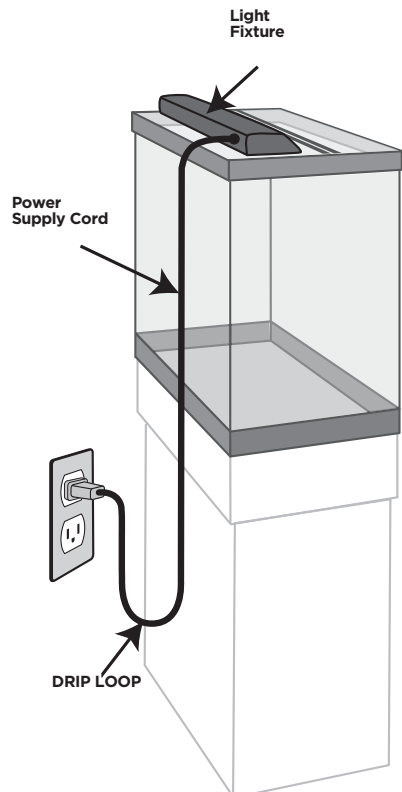

fig. A1 - Drip Loop
5. To avoid the possibility of the appliance plug or receptacle getting wet, position aquarium stand and tank to one side of a wall-mounted receptacle to prevent water from dripping onto the receptacle or plug. A "drip loop" (fig. A1) should be arranged by the user for each cord connecting an aquarium appliance to a receptacle. The "drip loop" is that part of the cord below the level of the receptacle, or the connector if an extension cord is to be used, to prevent water from traveling along the cord and coming in contact with the receptacle.